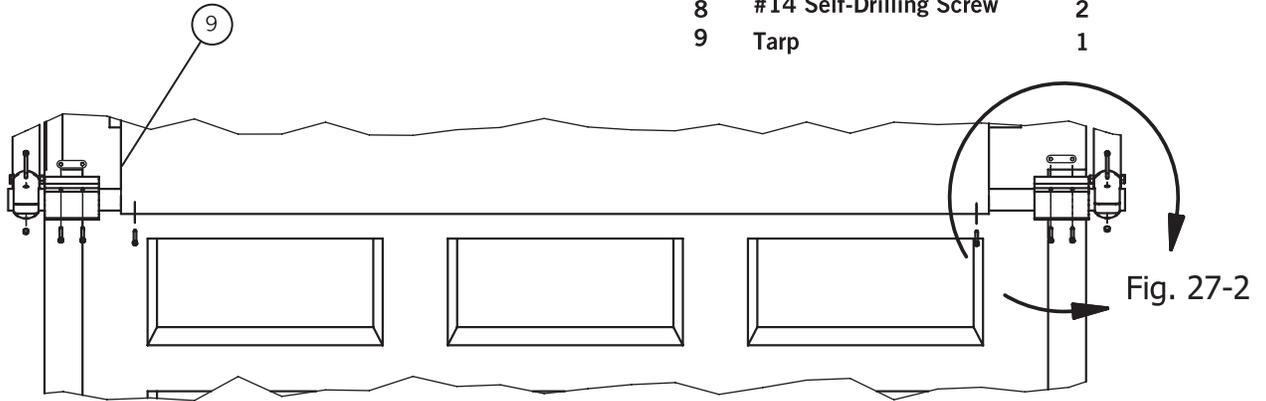

Figure 27-1
- 16) **Figure 27-1.** Position swing arm to be parallel with the bed. While maintaining that position, slide the opposite swing arm onto the cross arm until it is parallel with the bed.